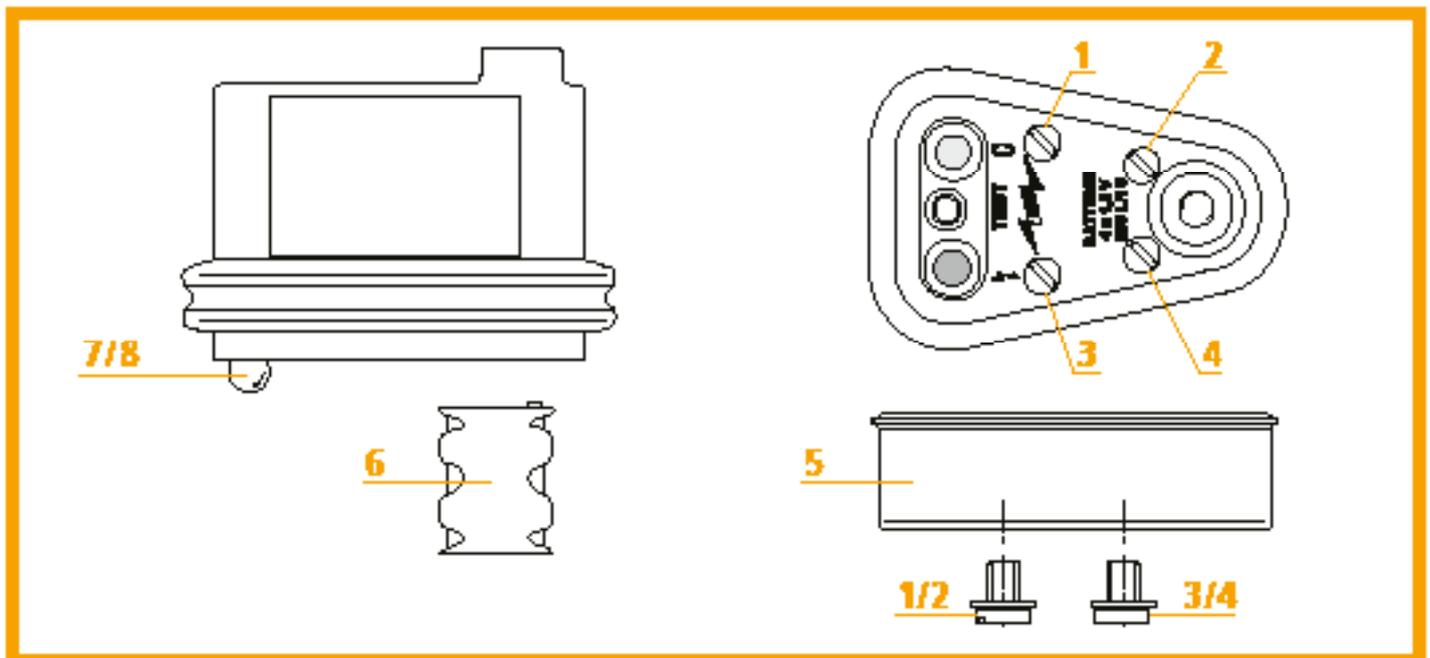

Fig. 5 Battery and lamp replacement
6.1 Changing the battery (see Fig. 5)
6.2 Changing the lamp (see Fig. 5)